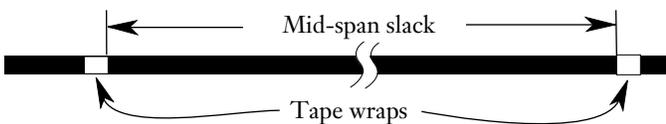

Figure 16
6.3 Determine the amount of slack needed. Place a wrap of tape at each end of the cable sheath that is to be removed (Figure 16).